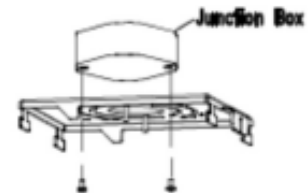

Fig. 3
a) **For Damp Location Usage:** Secure mounting plate to 4" octagonal metal junction box using (2) #8 screws (by others) per Fig. 3.